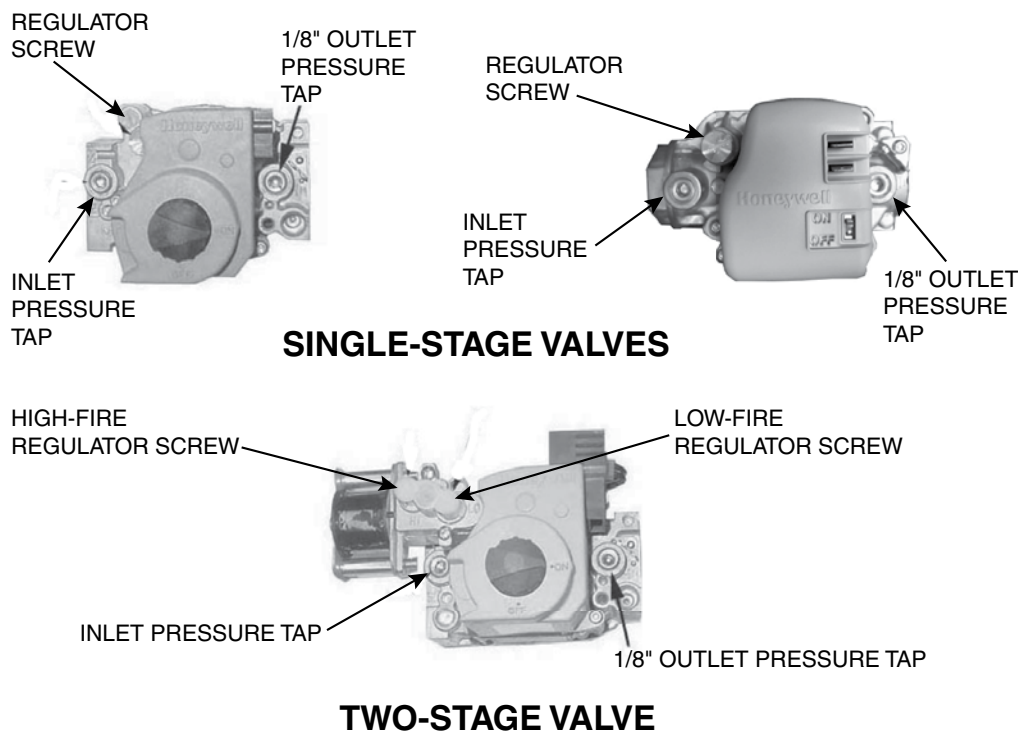

Figure 3. Manifold Pressure Adjustment
- b. Turn knob or switch on top of gas valve to OFF. Connect manometer to 1/8-inch outlet pressure tap (see Figure 3).
- e. For all gas valves, adjust outlet pressure by turning regulator screw IN (clockwise) to increase pressure or OUT (counterclockwise) to decrease pressure. See Figure 3 to determine which regulator screw (low-fire or high-fire) to adjust for two-stage valves.
- i. Connect manometer to inlet pressure tap (see Figure 3). While heater is operating, measure inlet pressure, which should be between 5 and 13.5 IN WC for natural gas or between 10 and 13.5 IN WC for propane.